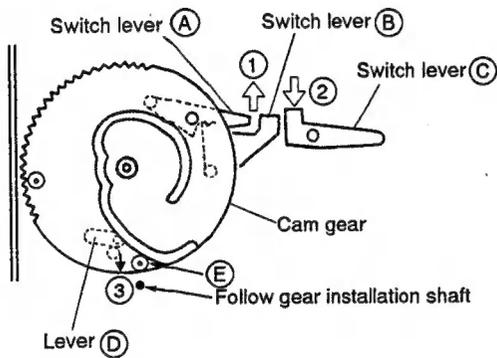

Fig. 11
- ② Move switch levers **A** and **B** (Fig.11) in the direction of arrow ① (SW is ON), switch lever **C** in the direction of arrow ② and lever **D** in the direction of arrow ③.
- ② Install the cam gear when the cam gear comes to the position as shown in Fig. 11.